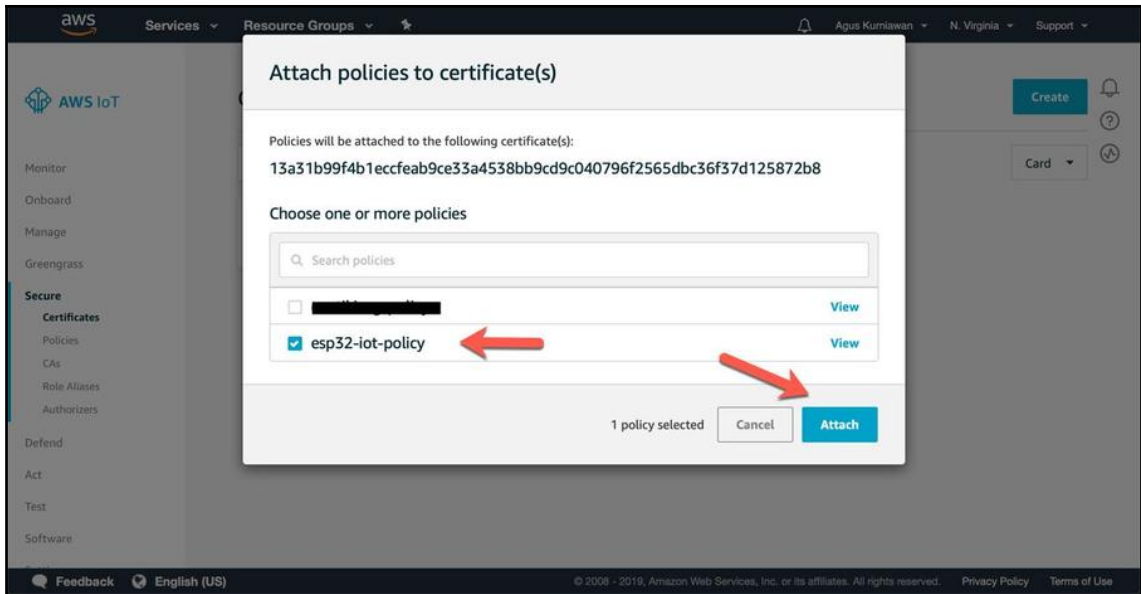

Figure 10.10. Selecting a security policy
12. After clicking on the menu, you should get a dialog box as shown in *Figure 10.10*.